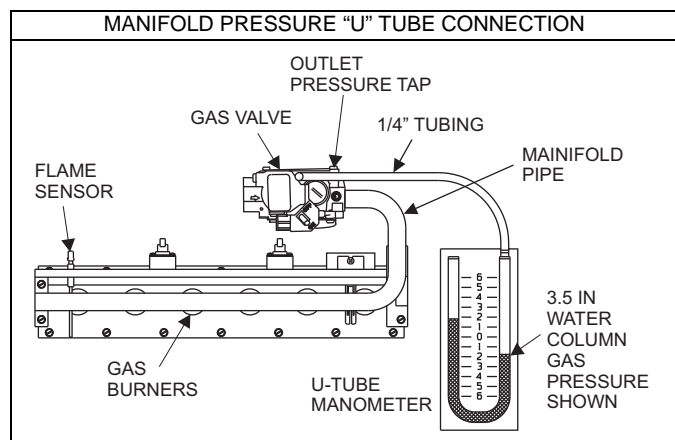

**FIGURE 37: Gas Valve**
Inlet and manifold gas pressure may be measured by connecting the "U" tube manometer to the gas valve with a piece of tubing. Follow the appropriate section in the instructions below. Refer to Figure 37 for a drawing of the locations of the pressure ports on the gas valve.
1. Refer to Figure 37 for location of pressure regulator adjustment cap and adjustment screws on main gas valve.